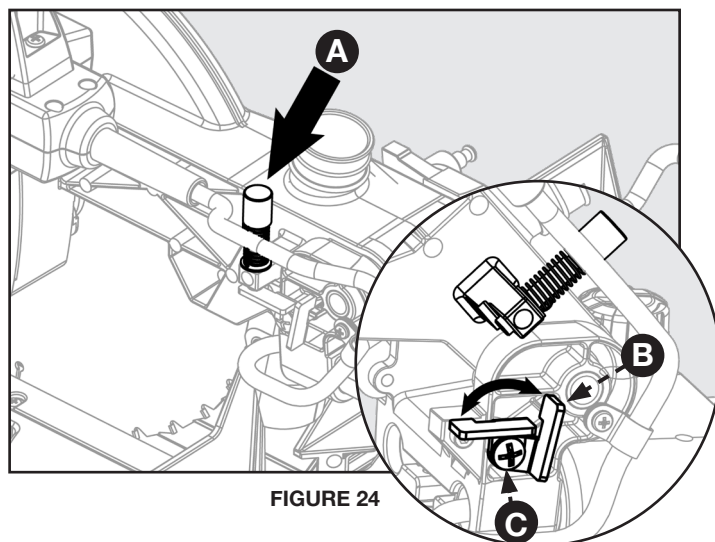

FIGURE 24
Refer to Figure 24 depth stop at a specific cut depth: use a Phillips head screwdriver to loosen screw (C) and then rotate the stop bracket (B) counterclockwise into the down position. Make sure to re-tighten screw (C). The cut depth can now be adjusted by turning the depth adjustment screw (A).
Refer to figure 24 and follow these instructions in order to make a through cut: use a Phillips head screwdriver to loosen screw (C) and then rotate the stop bracket (B) clockwise into the up position. Make sure to re-tighten screw (C).